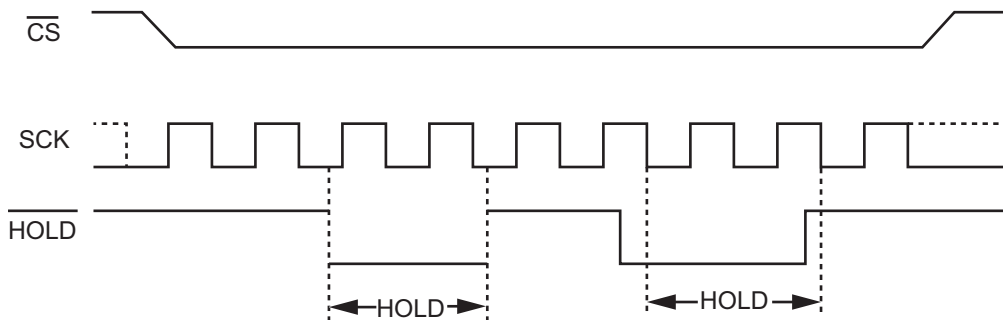

Figure 5. Hold Condition Activation
When $QE=0$, $HOLD=0$, the \overline{HOLD} signal is used to pause any serial communications with the device without resetting the clocking sequence, but does not stop the in-progress operation of write status register, programming, or erasing. During the Hold condition, the Serial Data Output (SO) is high impedance, and Serial Data Input (SI) and SCK are don't care. To enter the Hold condition, the device must be selected, with \overline{CS} low. Normally, the device is kept selected for the whole duration of the Hold condition. Deselecting the device while it is in the Hold condition, has the effect of resetting the state of the device, and this mechanism can be used if it is required to reset any processes that had been in progress. The Hold condition starts when the \overline{HOLD} signal is driven low at the same time as SCK already being low (Figure 5). The Hold condition ends when the \overline{HOLD} signal is driven high at the same time as Serial Clock (SCK) is low. Figure 5 also shows what happens if the rising and falling edges are not timed to coincide with SCK being low.